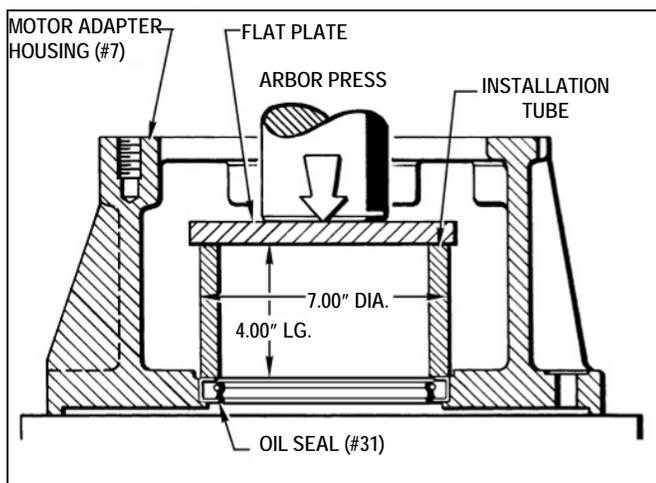

Figure 7.15 - Installing Oil Seal for MSB12
1. Remove the (8) Screws (#151) and (4) Lock washers (#129). Pull the Housing (#8) and the Gasket (#121) off of the Motor Adapter Housing (#7). Discard the Gasket (#121).
2. Remove (8) Screws (#166) and (8) Lock washers (#168). Pull the Motor Adapter Housing (#7) away from the motor face.
5. Press the new Oil Seal (#31) into the bore with an arbor press as shown in Figure 7.15.